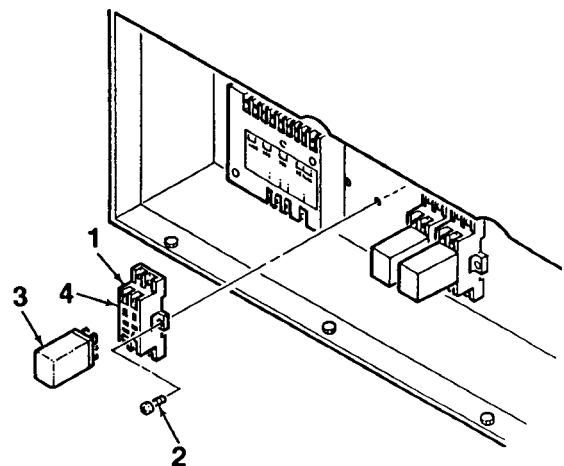

Figure 4-15. Control Box Relays
2. Remove hold-down springs (4, Figure 4-15) to release relays (3) from relay sockets (1).
1. Mate relay sockets (1, Figure 4-15) to rear wall of control box. Secure using screws (2) and nuts (3).
3. Insert relays (3) into relay sockets (1). Secure using holdown springs (4).